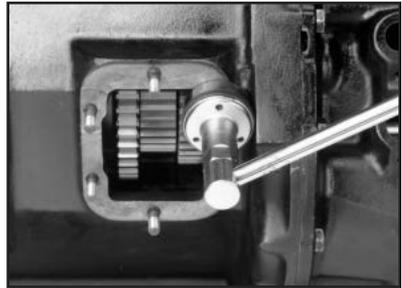

Figure 6
6. Remove the adapter, gaskets, and filler block, if required, from the transmission. Keep the gaskets and filler block as a package (**Fig. 6**).